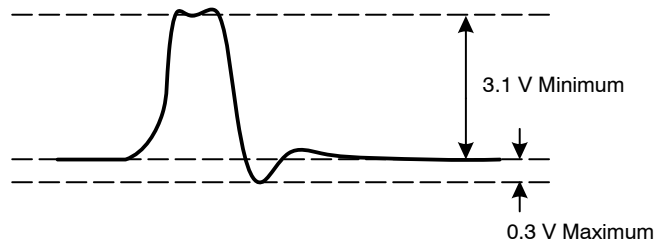

Figure 11. RG Clock Overshoot
2. Reset Clock Operation: The RG1, RG2, and RG3 signals must be capacitive coupled into the image sensor with a 0.01 μF to 0.1 μF capacitor. The reset clock overshoot can be no greater than 0.3 V, as shown in Figure 11, below: